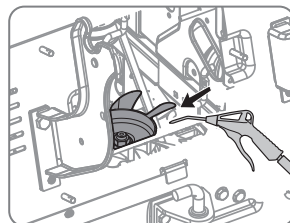

Fig. 37
2. Clean the cooling fan on the transmission with compressed air (Fig. 37).